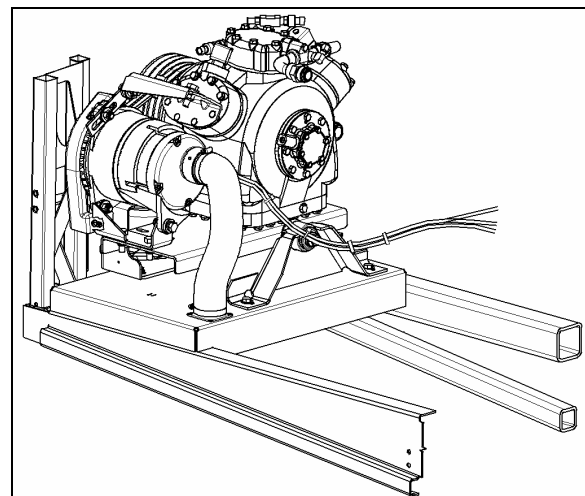

FIGURE 25: BOSCH 24V-140A WITH CENTRAL HVAC SYSTEM
1. Insert a ¾" socket drive into the automatic belt tensioner opening (Fig. 25).